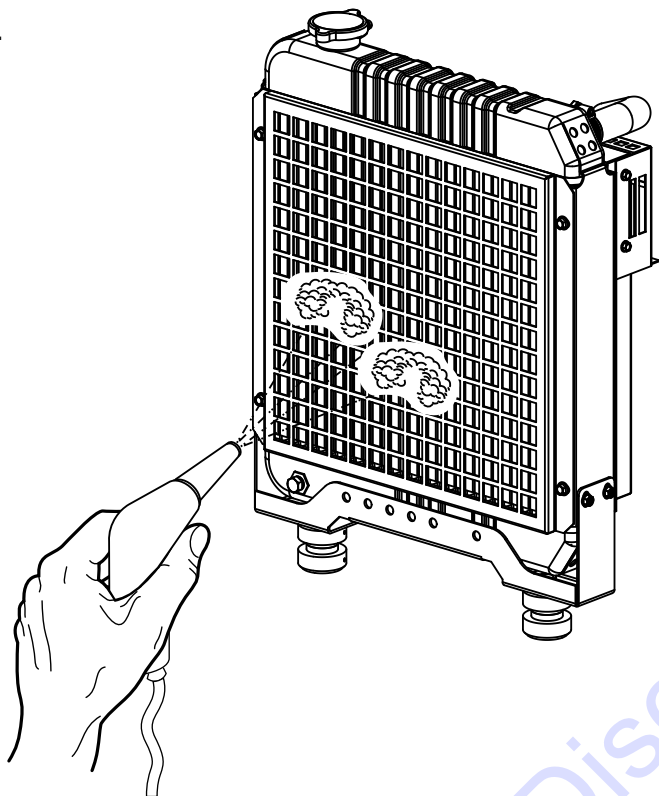

Figure 34. Radiator Cleaning
1. Blow off dirt and dust from the fins and radiator with 28 psi (193 kPa) or less of compressed air (Figure 34). Be careful to not damage the fins with the compressed air.